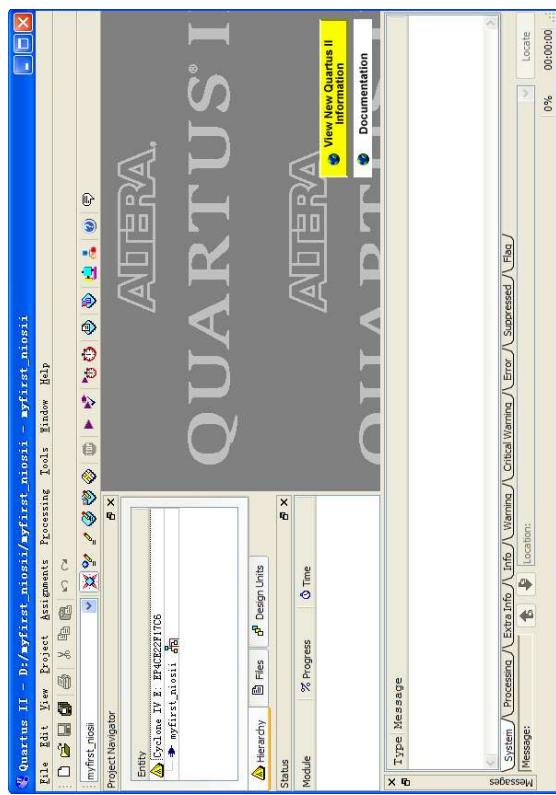

Figure 7-8 A New Complete Project
- Click **Next** and will see a window as shown in Figure 7-7. Figure 7-7 is a summary about the new project. Click **Finish** to complete the New Project Wizard. Figure 7-8 show the new project.